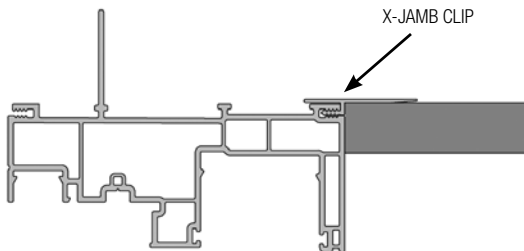

FIG. 2
- B) Install the 3" jamb extension clips around the perimeter of the frame, two on each corner, and then spaced on approximately 18" intervals along the frame. (Fig. 2) **Note: For drywall return, install lineal pieces.**
- C) Position the jamb extension as shown against the clips and staple or screw through the clip into the backside of the jamb extension. (Fig. 2)